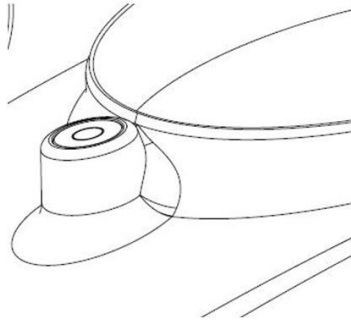

Figure 10
2. Reference Figure 10. Make sure the sensor array is completely level upon final installation. Failure to do so will result in inaccurate rain gauge readings.